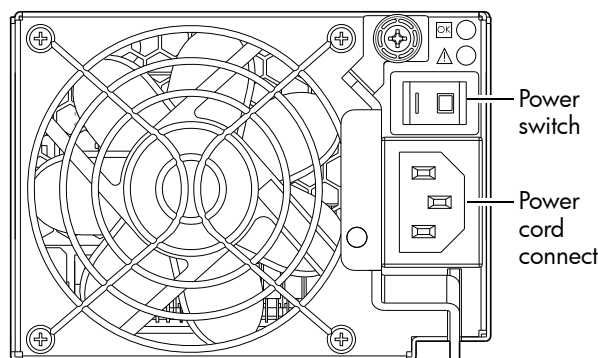

Figure 38 AC PSU with power switch (2U48)
- Figure 38 shows PSU alignment with the rear panel of a 4U enclosure.